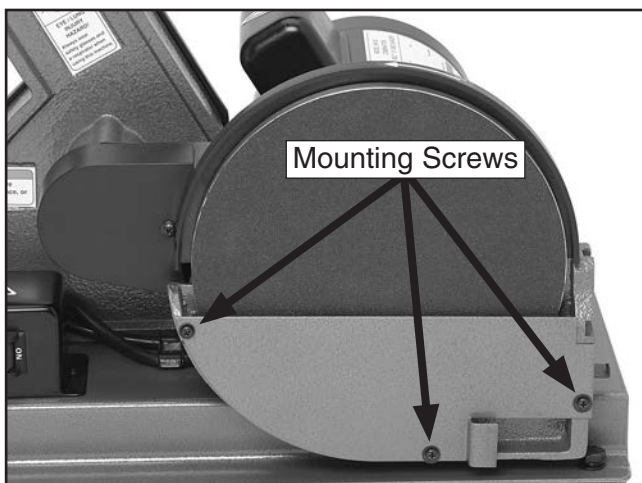

Figure 14. Disc dust cover installed.
13. Install the disc dust cover, as shown in **Figure 14**, with three M4-.7 x 8 Phillips head screws and flat washers.